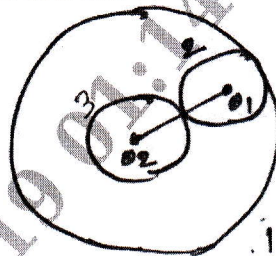

Fig. Q5 (b)
- b. An epicyclic gear train consists of 3 gears 1, 2, 3 as shown in Fig. Q5 (b). Internal gear 1 has 32 teeth. Gear 2 meshes with both 1 and 3 and carried an Arm A which rotates about  $O_2$  at 20 rpm. If gear 1 is fixed find speed of 2 and 3.